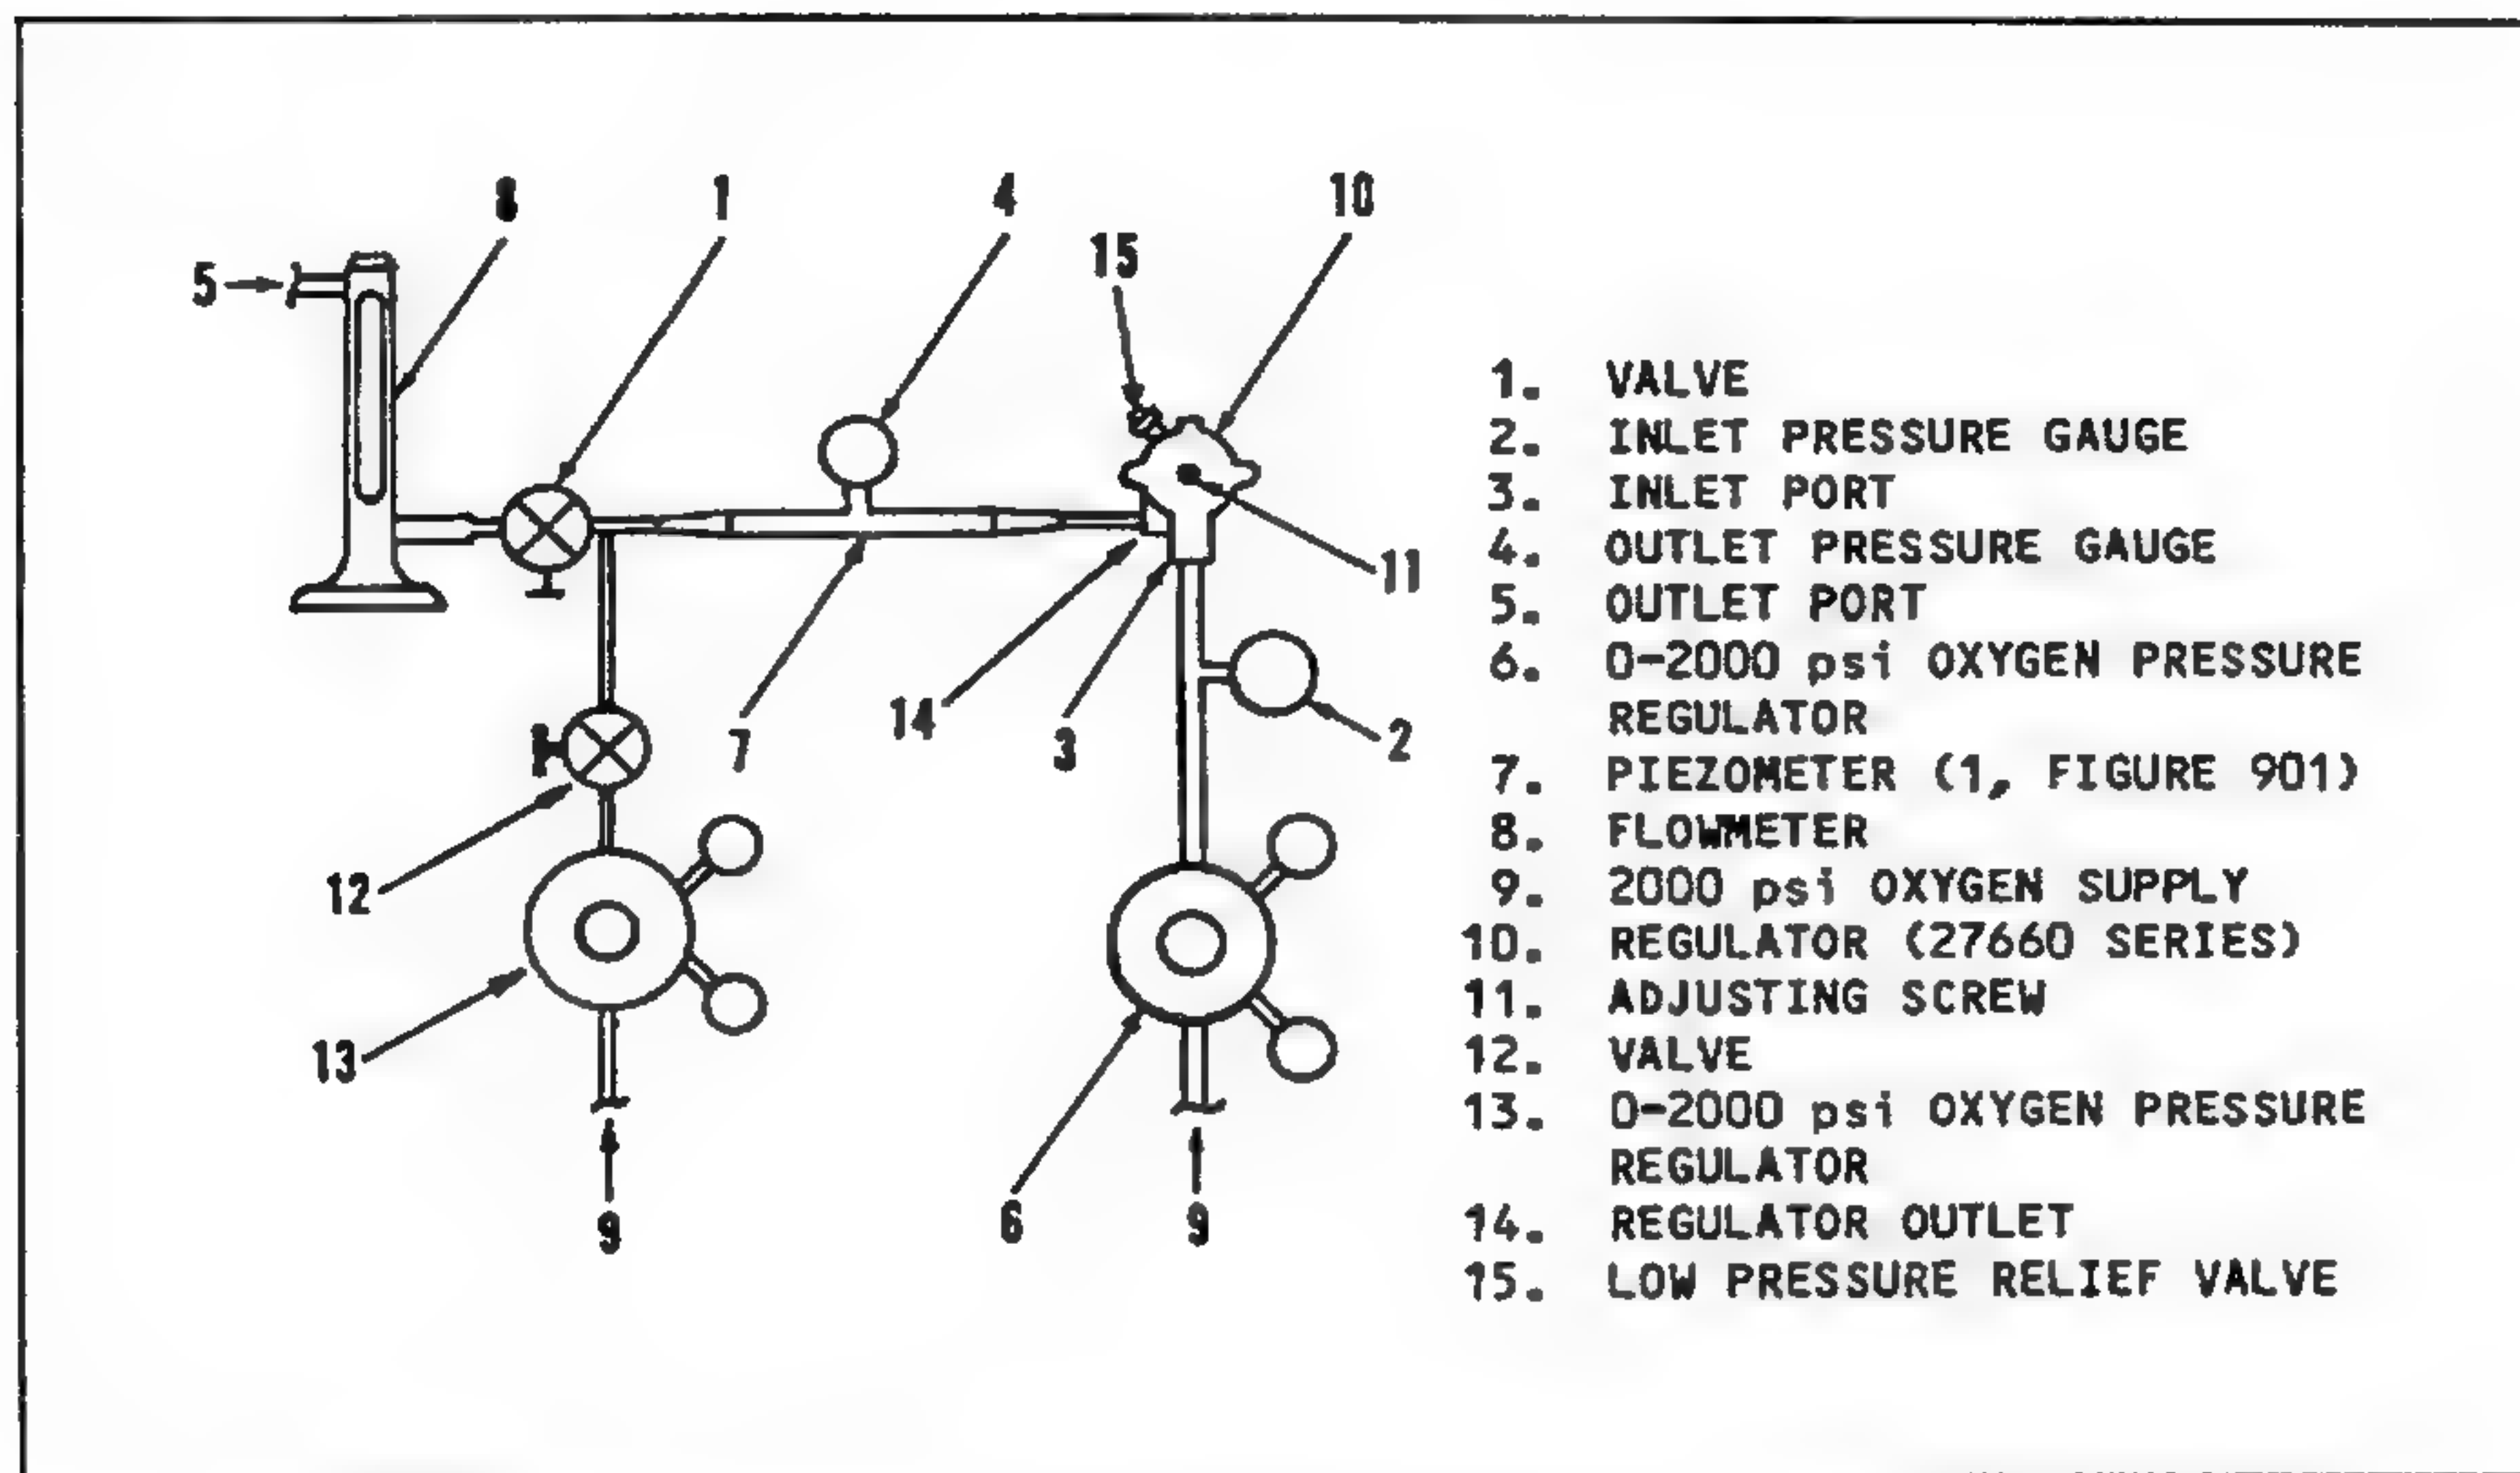

Figure 101 Test Set-up
The test procedures described in this section require the 27660 Series Oxygen Regulator Assembly to be connected to test equipment test setup that is illustrated in Figure 101.
NOTE: Be certain low pressure relief valve (15, Figure 101) is installed in the regulator assembly.
- (1) Plug inlet port (3, Figure 101) of regulator being tested; close valve (1).
- (2) With valve (12) closed, adjust oxygen regulator (13) to apply 100 psig (0.69 MPa), 120 psig (0.83 MPa) for 27660 -17 and -23 regulators. Slowly open valve (12) to apply set pressure to regulator outlet port (14). Relief valve shall hold this pressure.
- (3) Using oxygen regulator (13) increase applied pressure to 110 psig (0.76 MPa), 130 psig (0.90 MPa) for 27660-17 and -23 regulators. Relief valve shall open and flow between 100-110 psig, (0.69 - 0.76 MPa), between 120-130 psig (0.83 - 0.90 MPa) for 27660-17 and -23.
- (4) Using oxygen regulator (13) reduce pressure to 90 psig (0.63 MPa), 110 psig (0.70 MPa) for 27660-17 and -23. Relief valve shall have reseated and hold pressure at 90 psig (0.63 MPa) minimum, 110 psig (0.76 MPa) minimum for 27660-17 and -23.
- (5) Close valve (12) and relieve test pressure using valve (1).
- (1) With valve (1, Figure 101) closed, apply inlet pressures listed in Table 104 to the regulator under test. Adjust for proper outlet pressure indication (see Table 104) on pressure gauge (4) using adjusting screw (11).
- (2) Open valve (1) to allow a flow of 2 SLPM (10 SLPM on -13 units) as indicated on flowmeter (8). The regulated pressure indication on gauge (4) shall not drop more than 8 psig (0.055 MPa) for all units except the -11 and -13. For -11 units, the regulated pressure shall be between 48-55 psig (0.32 - 0.33 MPa); for -13 units the regulated pressure shall be 50 psig (0.345 MPa).
- (3) Apply the inlet pressures listed in Table 105 while adjusting valve (1) to obtain the specified flows as indicate on flowmeter (8). The allowable regulated pressure indicated on gauge (4) shall be within the ranges listed in Table 105 for the particular regulator assembly being tested.
- (1) With valve (1, Figure 101) in the "off" position, apply the lower of the pressures listed in Table 106 to inlet port (3) of the regulator under test.
- (2) Slightly open and slowly close valve (1) to allow the outlet pressure indication on gauge (4) to stabilize.
- (3) There shall be no leakage; as indicated by a pressure increase on gauge (4), during a ten-minute period (two minutes for -13 units).
- (4) Apply the higher of the inlet pressures listed in Table 106 and repeat steps (2) and (3) above.